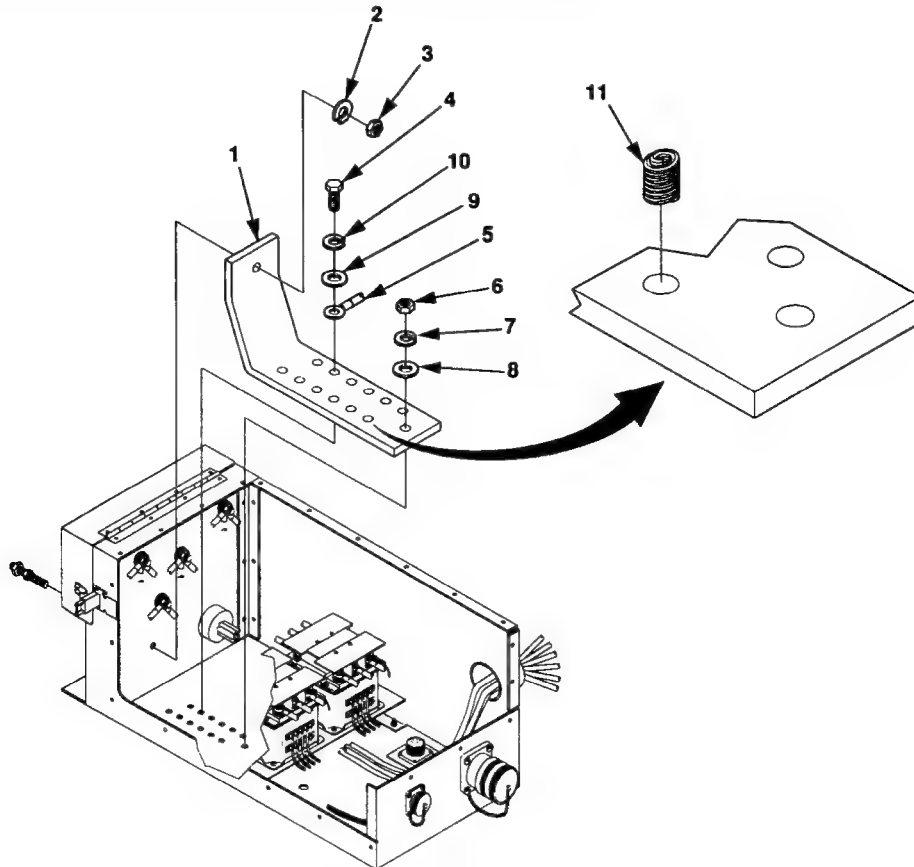

Figure 5-14. *Bus Bar Maintenance*
5. Remove cap screws (4, figure 5-14), lock washers (10), flat washers (9), and electrical leads (5) from bus bar (1).
6. Remove nut (3) and lock washer (2).
7. Remove nut (6), lock washer (7), flat washer (8), and bus bar (1).
- 1. Position bus bar (1 figure 5-14) in place.
- 2. Install flat washers (8), new lock washers (7), and nut (6).
- 3. Install lock washers (2) and nut (3).
- 4. Install leads (5), flat washers (9), lock washers (10), and cap screws (4).